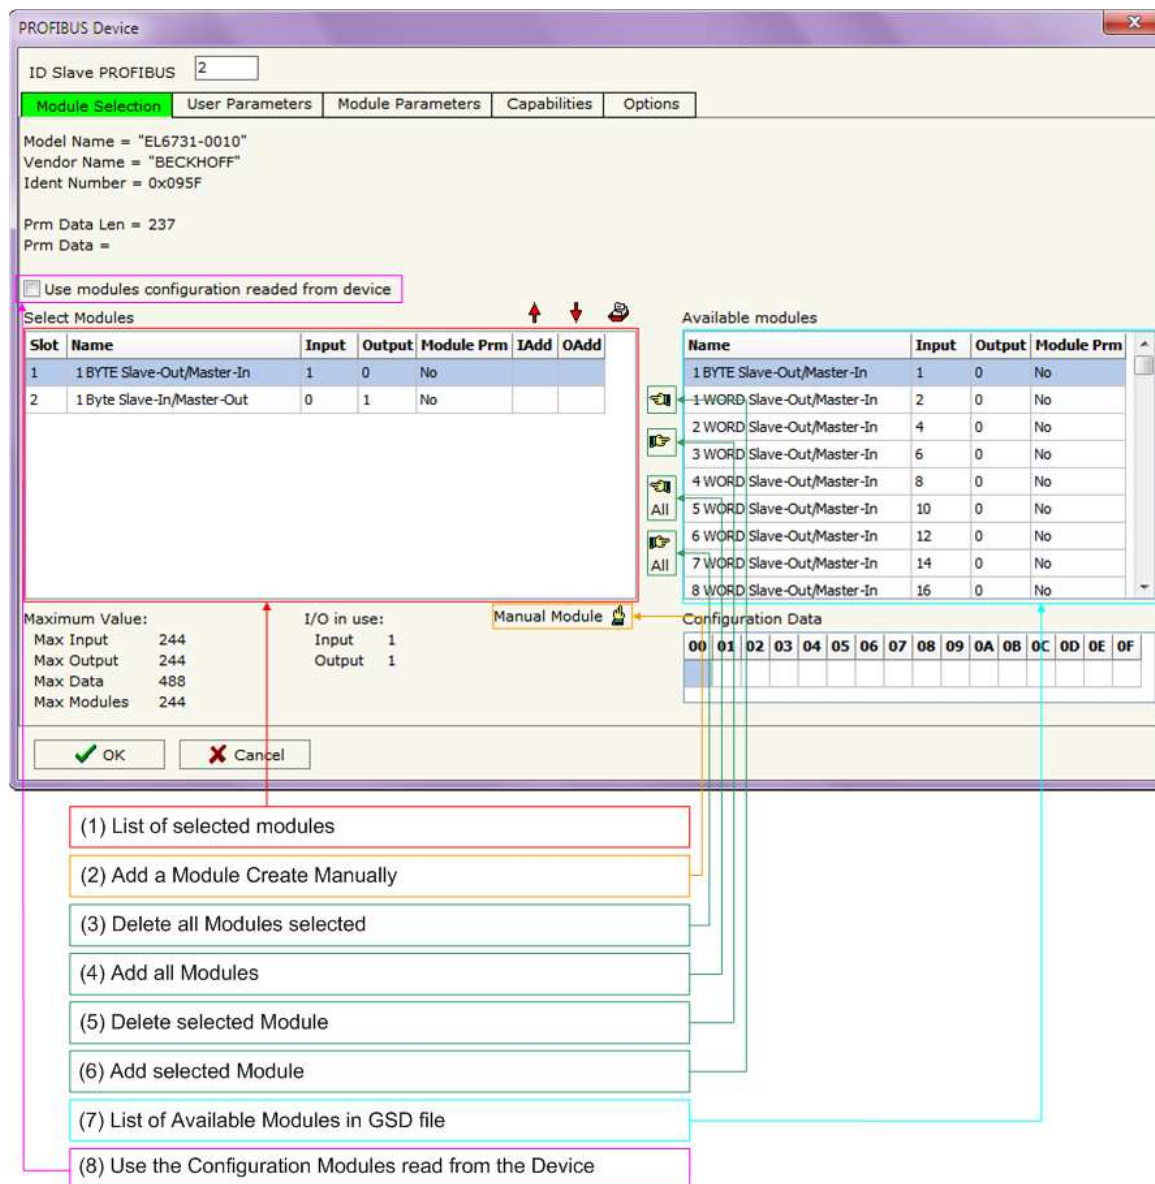

Figure 7: "PROFIBUS Device – Module Selection" window
The section "Module Selection" is used to select which Modules are present in the Slave (Fig. 7).
- Check the list of the Modules selected ("Select Modules") (Fig. 7, point (1)) and the list of Modules Available in GSD file ("Available Modules") (Fig. 7, point (7));
- Add a Module from the list of GSD file (Fig. 7, point (6));
- Remove a Module from selected list (Fig. 7, point (5));
- Add all Modules present in the GSD file (Fig. 7, point (4));
- Remove all Modules from selected list (Fig. 7, point (3));
- Insert a Module not present in the GSD file ("**Manual Module**") (Fig. 7 point (2)). For more info see the section "Manual Module" below;
- Enable the read of configuration directly from the PROFIBUS Slave ("**Use module configuration read from device**") (Fig 7, point (8)). If this option is enable the configuration of the modules is discarded and the device read the correct configuration directly to the PROFIBUS slave.
To modify a Module inserted manually, is necessary to do a double click on the module to change in the "Select Module" list (Fig. 7, point (1)). It is possible to change only the module inserted manually.